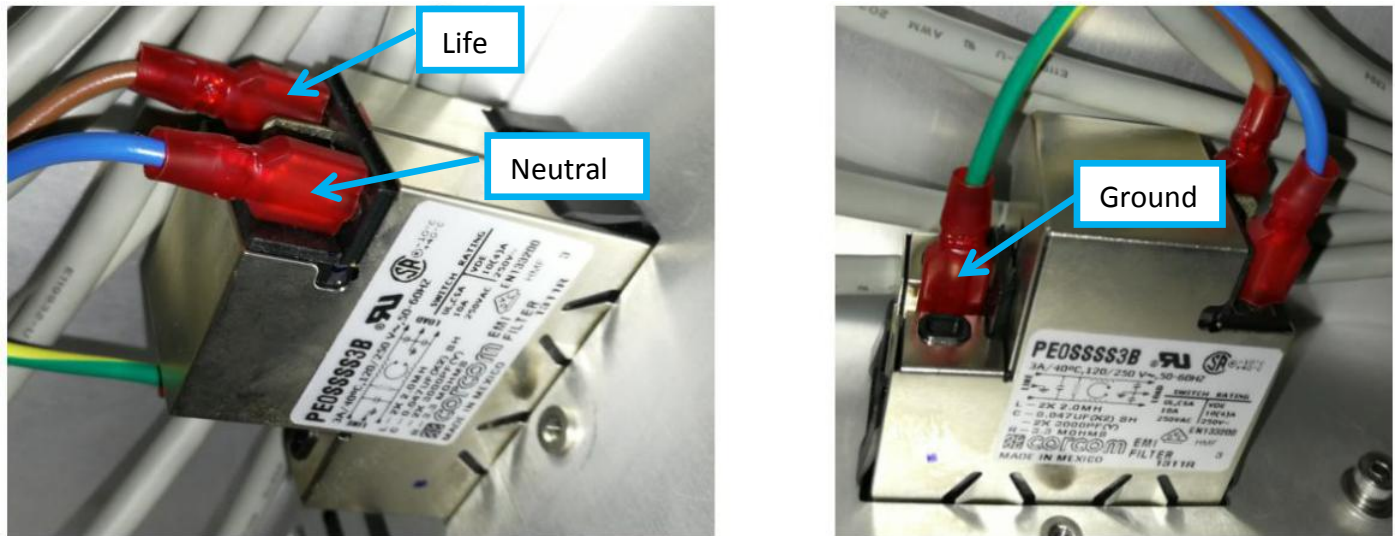

Figure 6 Power cable removal
8. Remove Life, Neutral & Ground Cable From Trigger Board Power Switch as below Figure 6